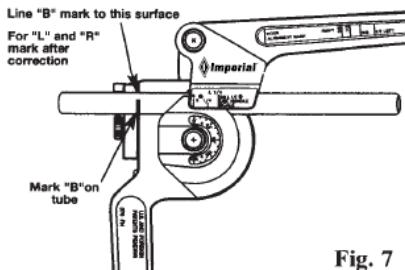

Fig. 7
**Subtract** from the original mark "L" the appropriate length, and place a second mark "B" on the tube. This second mark "B" should be placed on the right edge of the tube-clamping hook as shown in Fig. 7.
For bends to the right of the tube clamping hook, place mark "R" on the tube in the same manner as required for the 1/4" size. **Add** to your mark the distance shown in Table 2, placing a second mark "B" on the tube. This second mark "B" should be placed on the right edge of the tube-clamping hook as shown in Fig. 7.
Example — See Fig. 8 for a bend left of the tube clamping hook, using 3/8" tubing. Measure the required distance from the end of the tube and place mark "L". Hold the handle to the tube with mark "L" adjacent to the 3/8" Left mark. Make a second mark "B" on the tube adjacent to the "HOOK ALIGNMENT MARK". Place tube in bender with the second mark "B" aligned with the right edge of the tube clamp hook (Fig. 7).